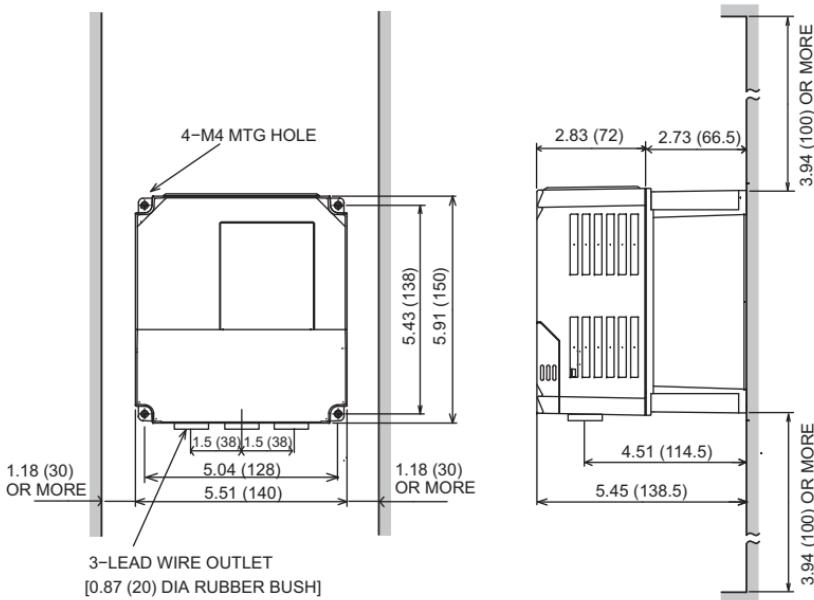

Fig. 1 Braking Unit Dimensions in inches (mm) CDBR-2015B, -2015C, -2022B, -2022C, -4030B, -4045B
Figs. 1 to 8 show the external dimensions and the spaces from the periphery.
- Provide the spaces shown in Figs. 1 to 8 between the units and the periphery.
- Install the units in the directions shown in Figs. 1 to 8. There will be no problem if they are installed vertically.